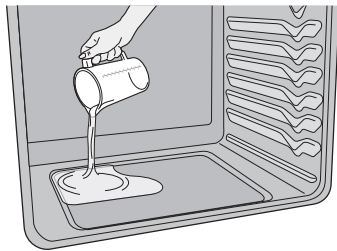

Figure 33: Add 1 cup of tap water
3. Pour 1 cup of tap water onto the oven bottom.(Figure 33) Close oven door.